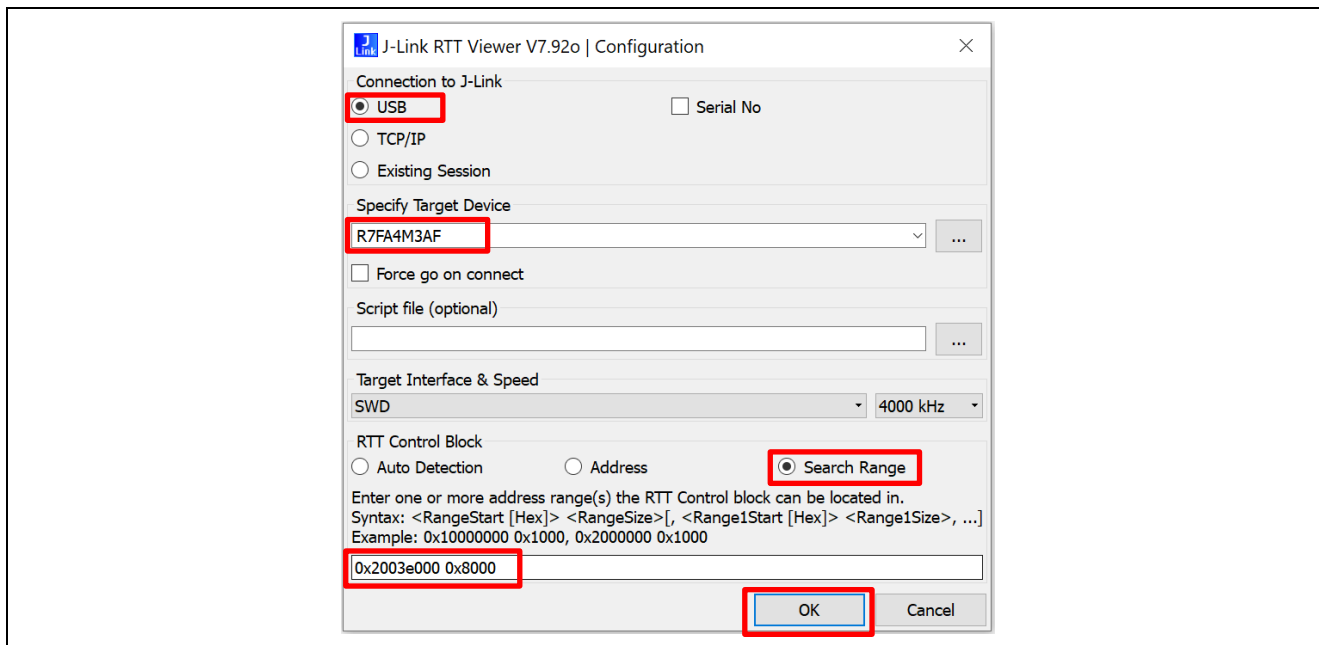

Figure 17. Configure the RTT Viewer
- Open the J-Link RTT Viewer and set up the same configuration as Figure 17.
6. Open the J-Link RTT Viewer and set up configuration similar as Figure 17 except change the search range to `0x20000000 0x8000`.